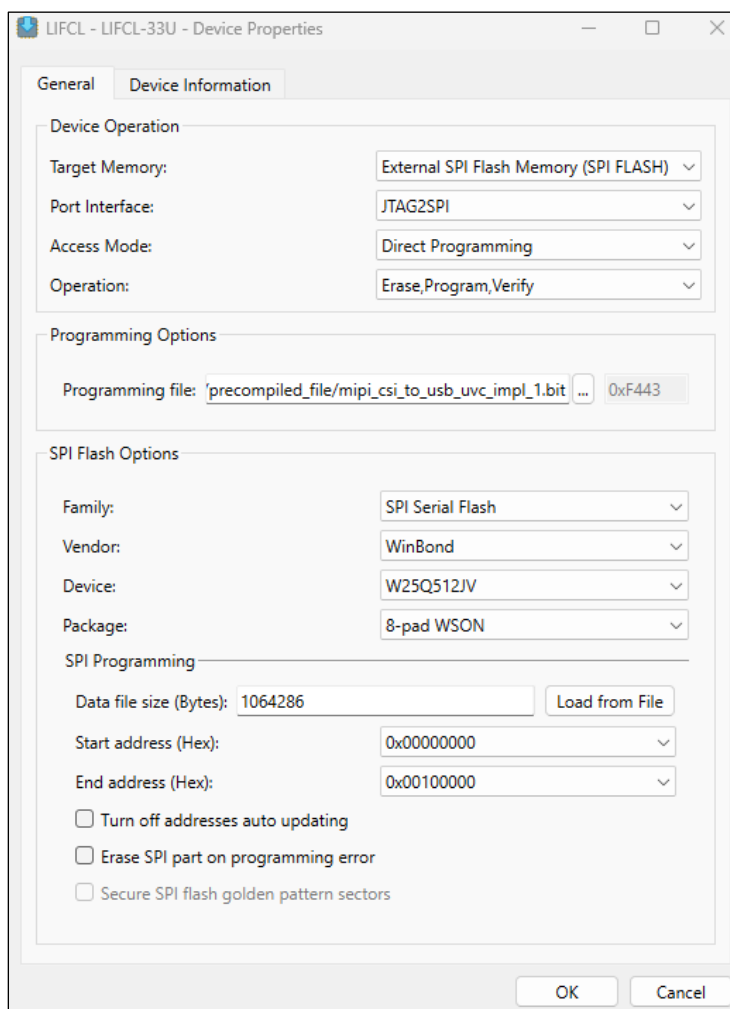

Figure 6.9. Device Properties Window for the CrossLinkU-NX SPI Flash Programming
- c. Select the other settings, as shown in Figure 6.9.